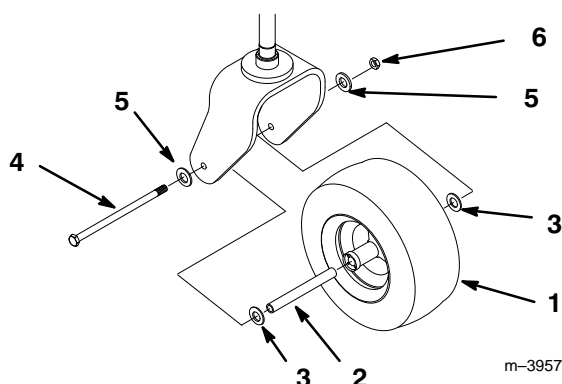

Figure 1
1. Remove locknut, washers and axle bolt from fork (Fig. 1).
3. Check for spacer inside wheel hub, place 3/4" (19 mm) washers outside spacer and align wheel between forks (Fig. 1).
4. Secure wheel with (2) 1/2" (13 mm) washers, 1/2-13 x 9" (230 mm) axle bolt and 1/2-13 locknut.
6. Grease castor wheel bearings (Fig. 1).